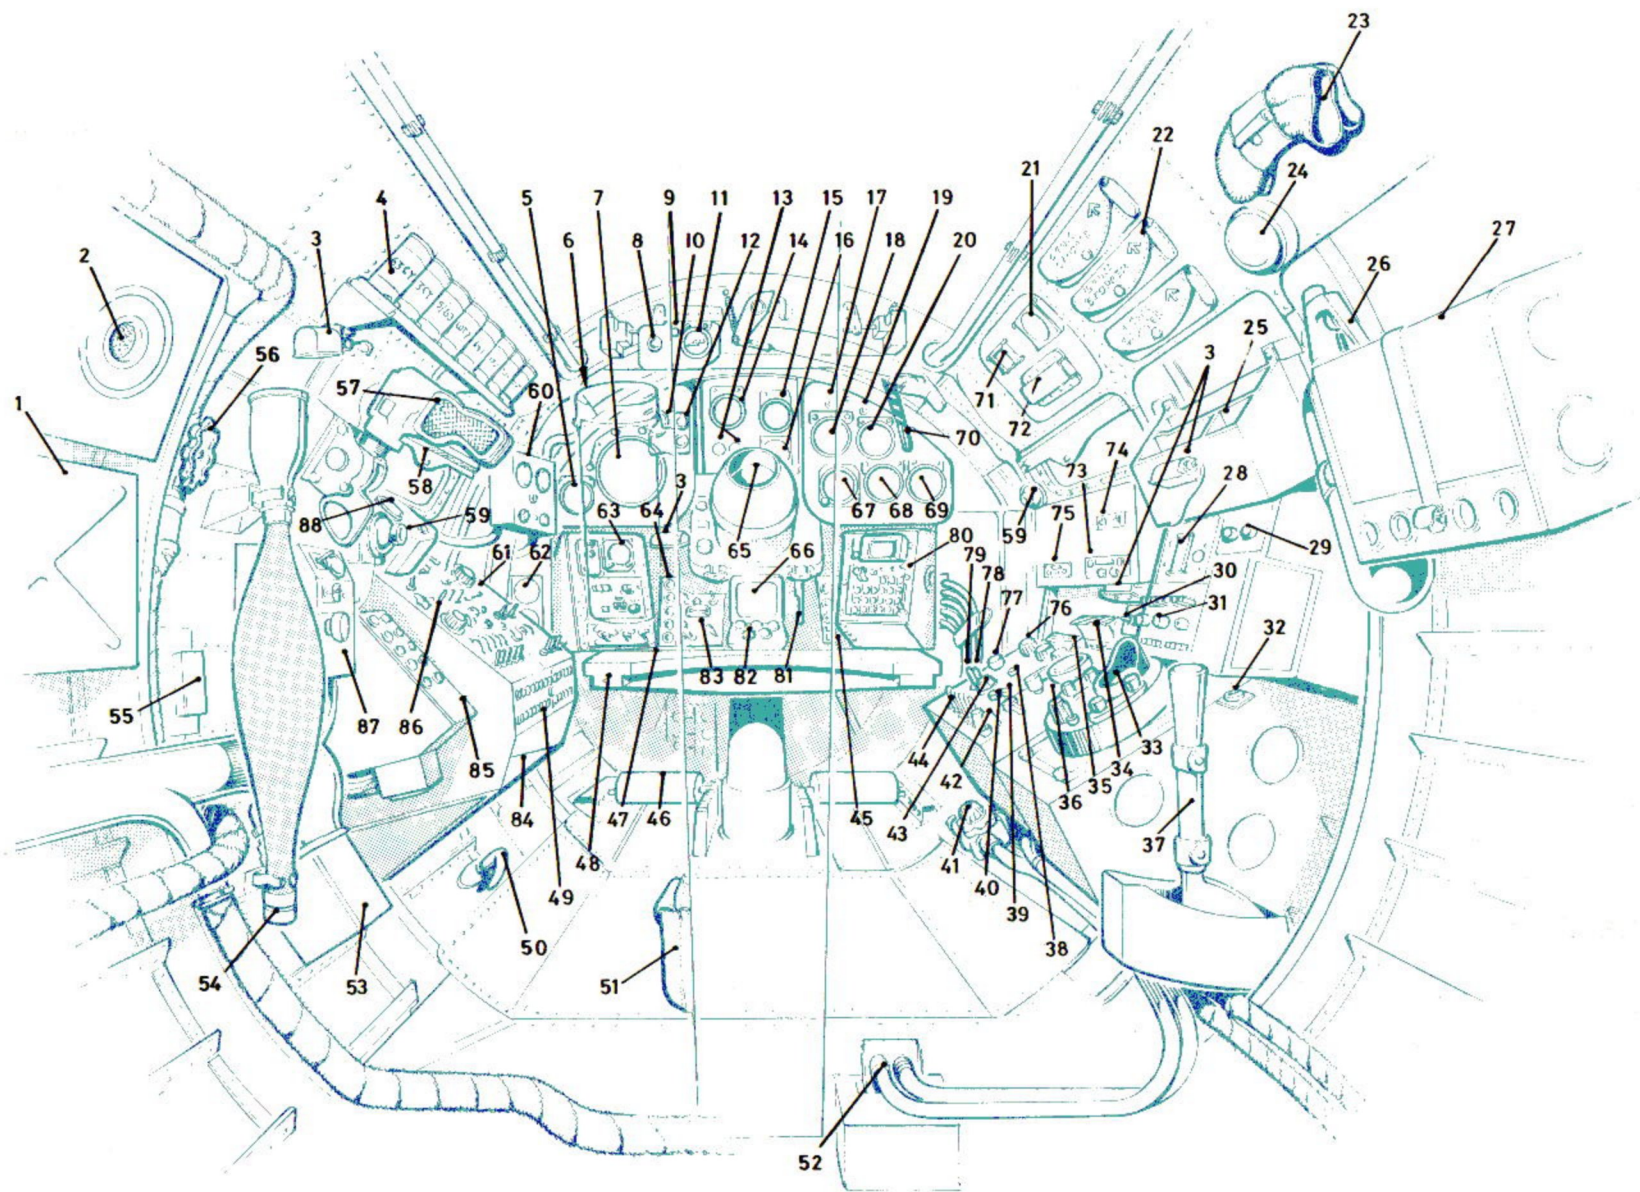

Fig.1. Navigator's station controls, instruments & equipment.
15. In certain roles (Sect. 5, Chap. 1, Group A & B) alternative controls and equipment may be fitted at the navigator's station; e.g. item 10, fig. 1.
## KEY TO FIG. 1